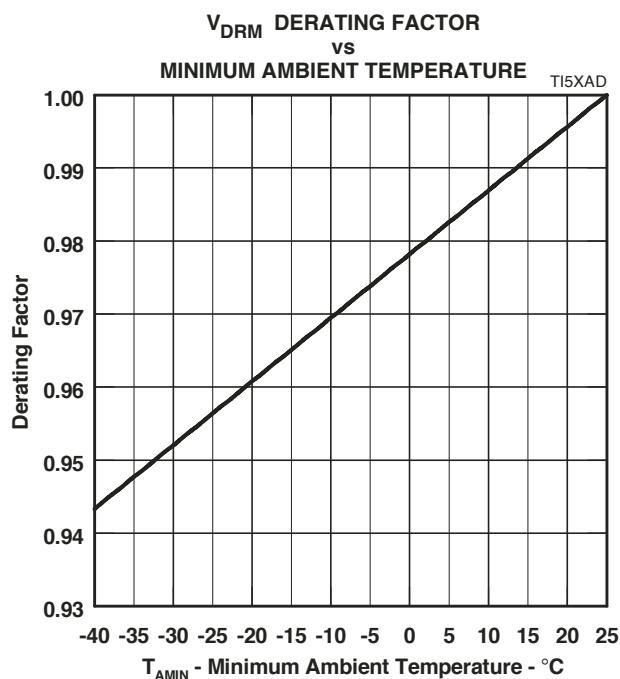

Figure 9.
- NOTES: 1. See Figure 9 for voltage values at lower temperatures.
The protector should not clip or limit the voltages that occur in normal system operation. Figure 9 allows the calculation of the protector V_{DRM} value at temperatures below 25 °C. The calculated value should not be less than the maximum normal system voltages. The TISP5150H3BJ, with a V_{DRM} of -120 V, can be used to protect ISDN feed voltages having maximum values of -99 V, -110 V and -115 V (range 3 through to range 5). These three range voltages represent 0.83 (99/120), 0.92 (110/120) and 0.96 (115/120) of the -120 V TISP5150H3BJ V_{DRM} . Figure 9 shows that the V_{DRM} will have decreased to 0.944 of its 25 °C value at -40 °C. Thus, the supply feed voltages of -99 V (0.83) and -110 V (0.92) will not be clipped at temperatures down to -40 °C. The -115 V (0.96) feed supply may be clipped if the ambient temperature falls below -21 °C.